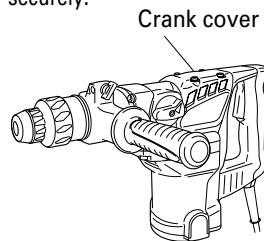

Fig. 19
- (1) Remove the crank cover and wipe off the grease inside. (Fig. 19)
- (2) Apply 2.0 oz (60 g) of HITACHI Electric Hammer Grease A (standard accessory, contained in tube) to the crank case.
- (3) After replenishing the grease, install the crank cover securely.